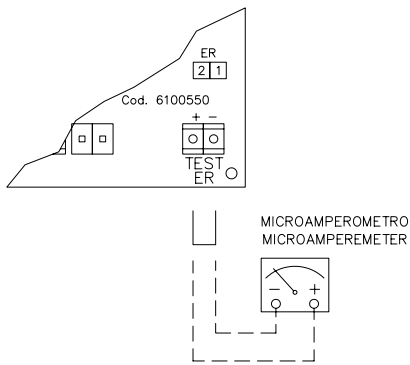
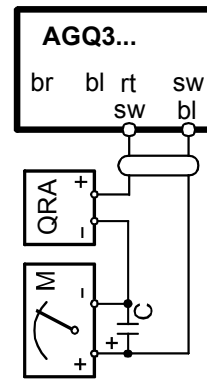

Fig. 35
Fig. 36
- Check the detection electrode, clean, adjust and, if necessary, replace; in case of doubt, check the detection circuit following the diagram in Fig. 35 and Fig. 36, after turning the burner back into operation.
Siemens LME (with UV detector)	3 μ A (Fig. 35) - 200 μ A (Fig. 36)